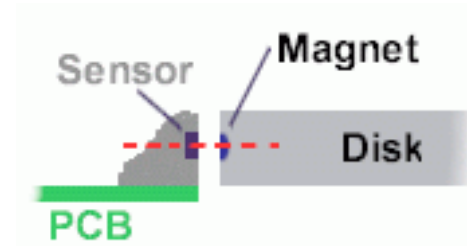

Figure 4 Ensure correct alignment of magnet disk and sensor.
- Take care that the magnets in the disk are approximately in the same height as the sensor, see figure 4 on page 9.